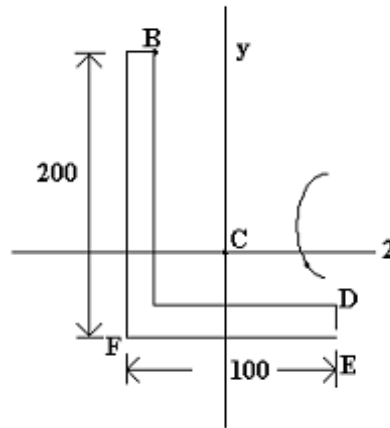

Figure 7
7. Using the general equation for elastic bending stress find the stresses at points B and F for the angle section shown in figure 7. The applied moment is  $M_z = 10$  kNm